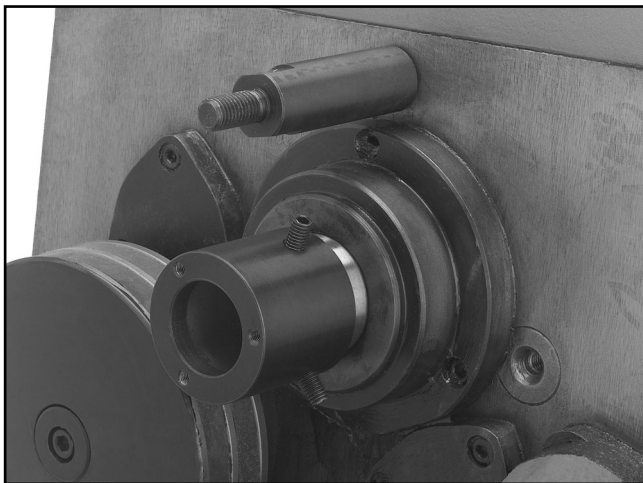

Figure 3. Installing hub adapter.
3. Install the half of the hub adapter with the setscrews onto the outboard spindle shaft shown in **Figure 3**.